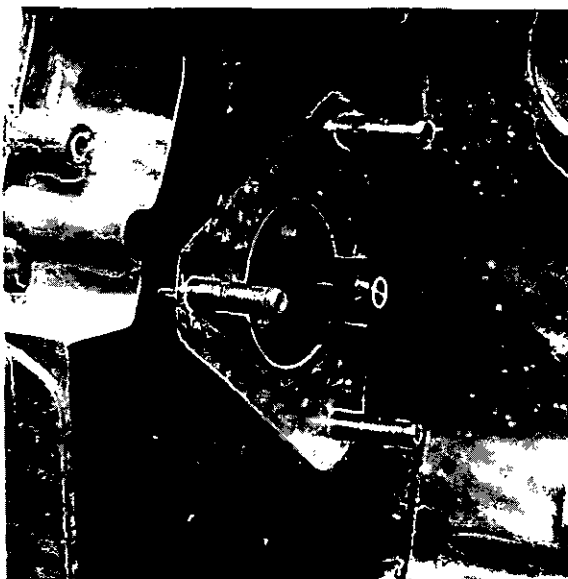

Fig. H.5
2. Fit adaptor PD67B-1 (Fig. H.5) to fuel pump gear so the dowel of gear locates in slot of adaptor and shaft of adaptor is towards rear of engine. Secure adaptor to gear using setscrews.